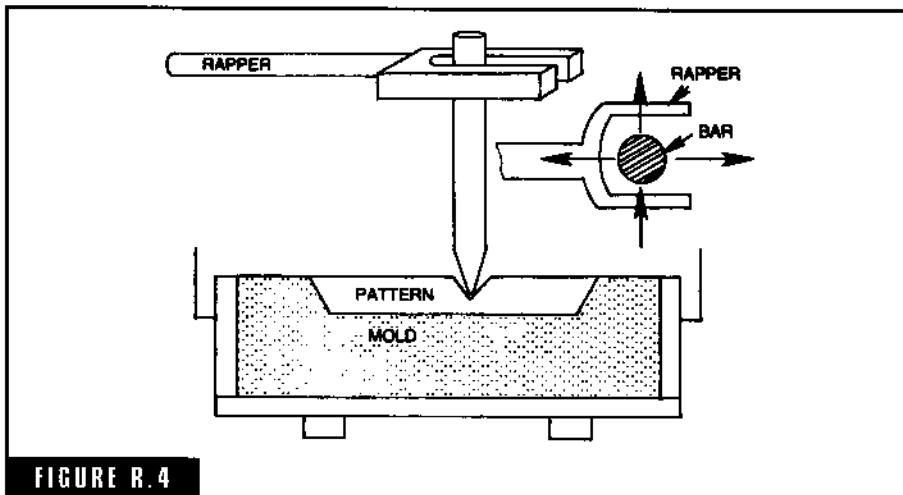

FIGURE R.4
**rapping bar and rapper** The rapping bar consists of a piece of brass or steel (cold roll) rod which is machined or ground to a tapered point (Fig. R-4). The rapper is made of steel or brass and is shaped exactly like the frame of a sling shot.